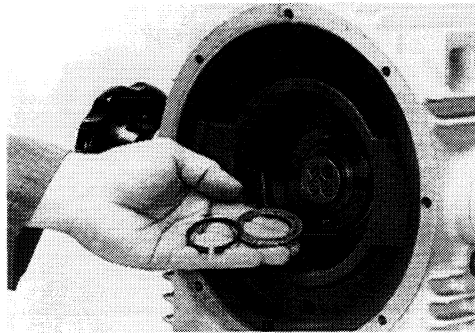

Fig. 5
Remove the snap ring (54) and washer (12) (Fig. 5).